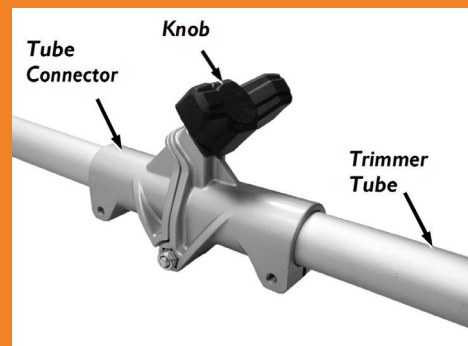

Figure 1
2. Unfold the Trimmer Tube so that it is fully extended and the Tube Connector halves are together (**Figure 1**). Be careful not to pinch the wire that is inside the tubes.